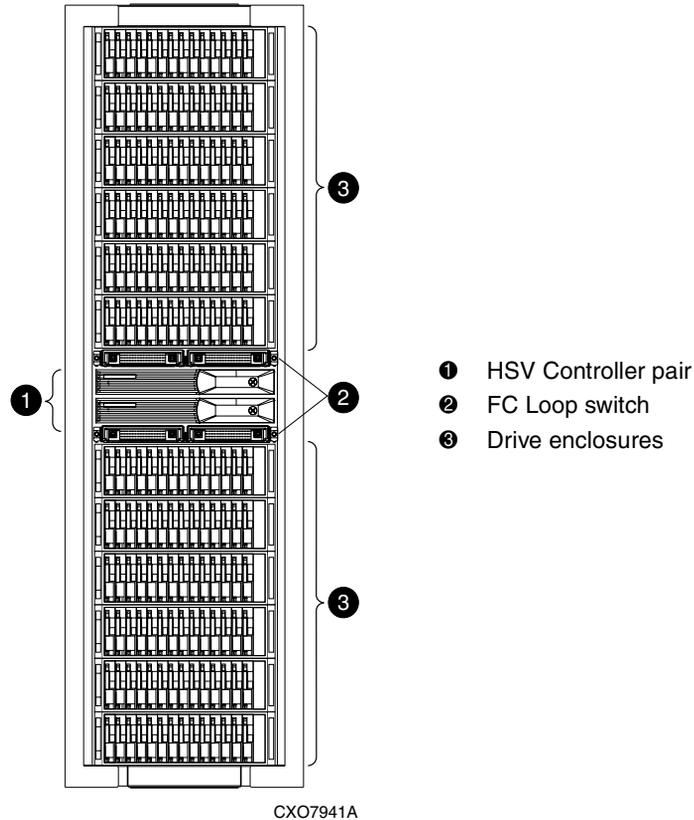

Figure 1–4: Basic storage system hardware components in a 41U rack
Physically, the Enterprise consists of a pair of HSV controllers and their array of physical disk drives. The basic physical components are shown in Figure 1–4. The physical disk drives connect to drive enclosures, which plug into Fibre Channel (FC) Loop switches. The controller pair is cabled to the FC Loop switches. A backplane in the drive enclosures distributes commands and data to the drives.